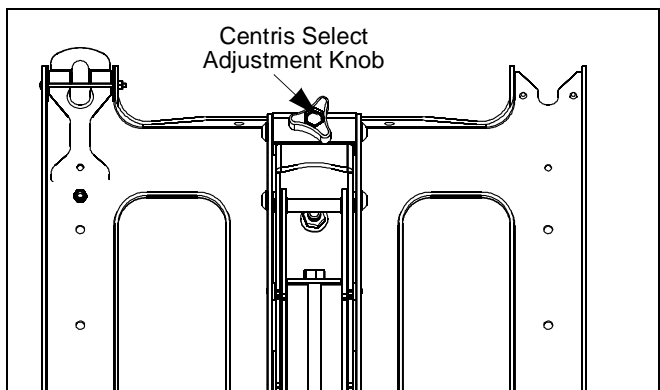

Figure 8
2. Adjust the Centris Select knob until desired vertical tilt tension is obtained. (See Figure 8)